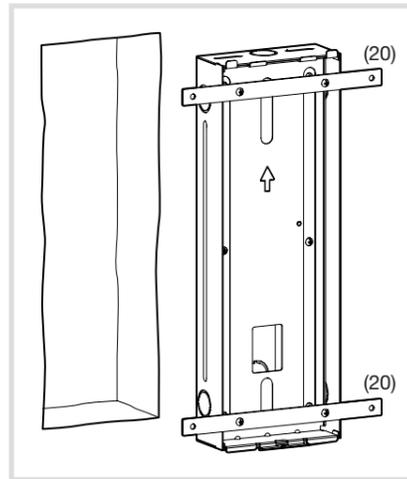

Fig. 15: Flush-mounted installation housing with plaster masks
- Insert the flush-mounted installation housing in the wall recess in the correct position with the arrow ↑ pointing up and align with the spirit level. If necessary, draw on the fastening holes of the plaster masks and drill them (Figure 15).